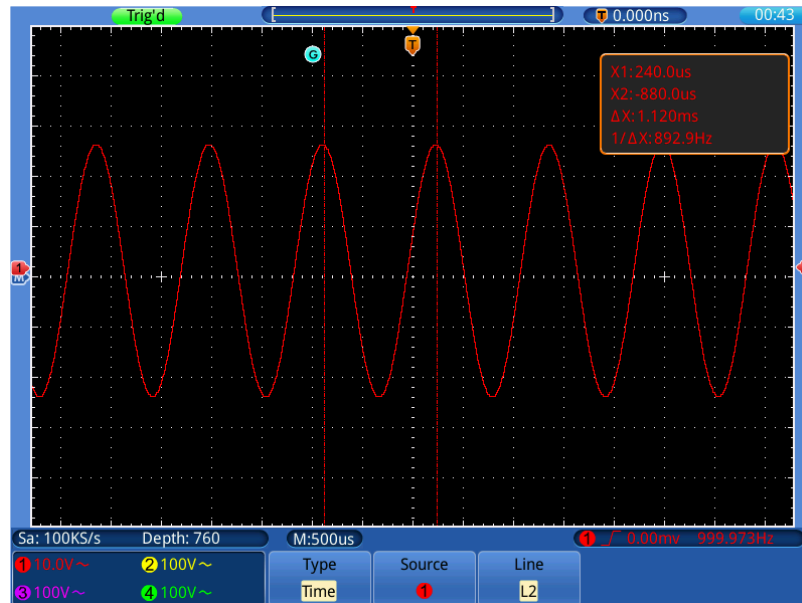

Figure 5-11 Waveform of Time Cursor Measurement
2. Select **Source** in the bottom menu; select ① in the left menu.
4. Select **Line** in the bottom menu; select **L1** in the right menu. The **G** icon will appear beside the dotted line of L1, represents you can turn the **G** knob to adjust the position of L1. Select **L2** to adjust the position of L2. Select **L1&L2** to adjust the two cursors together. The cursor measure window at the top right shows the present time of cursor 1 and cursor 2, the absolute difference and the frequency (see *Figure 5-11*).